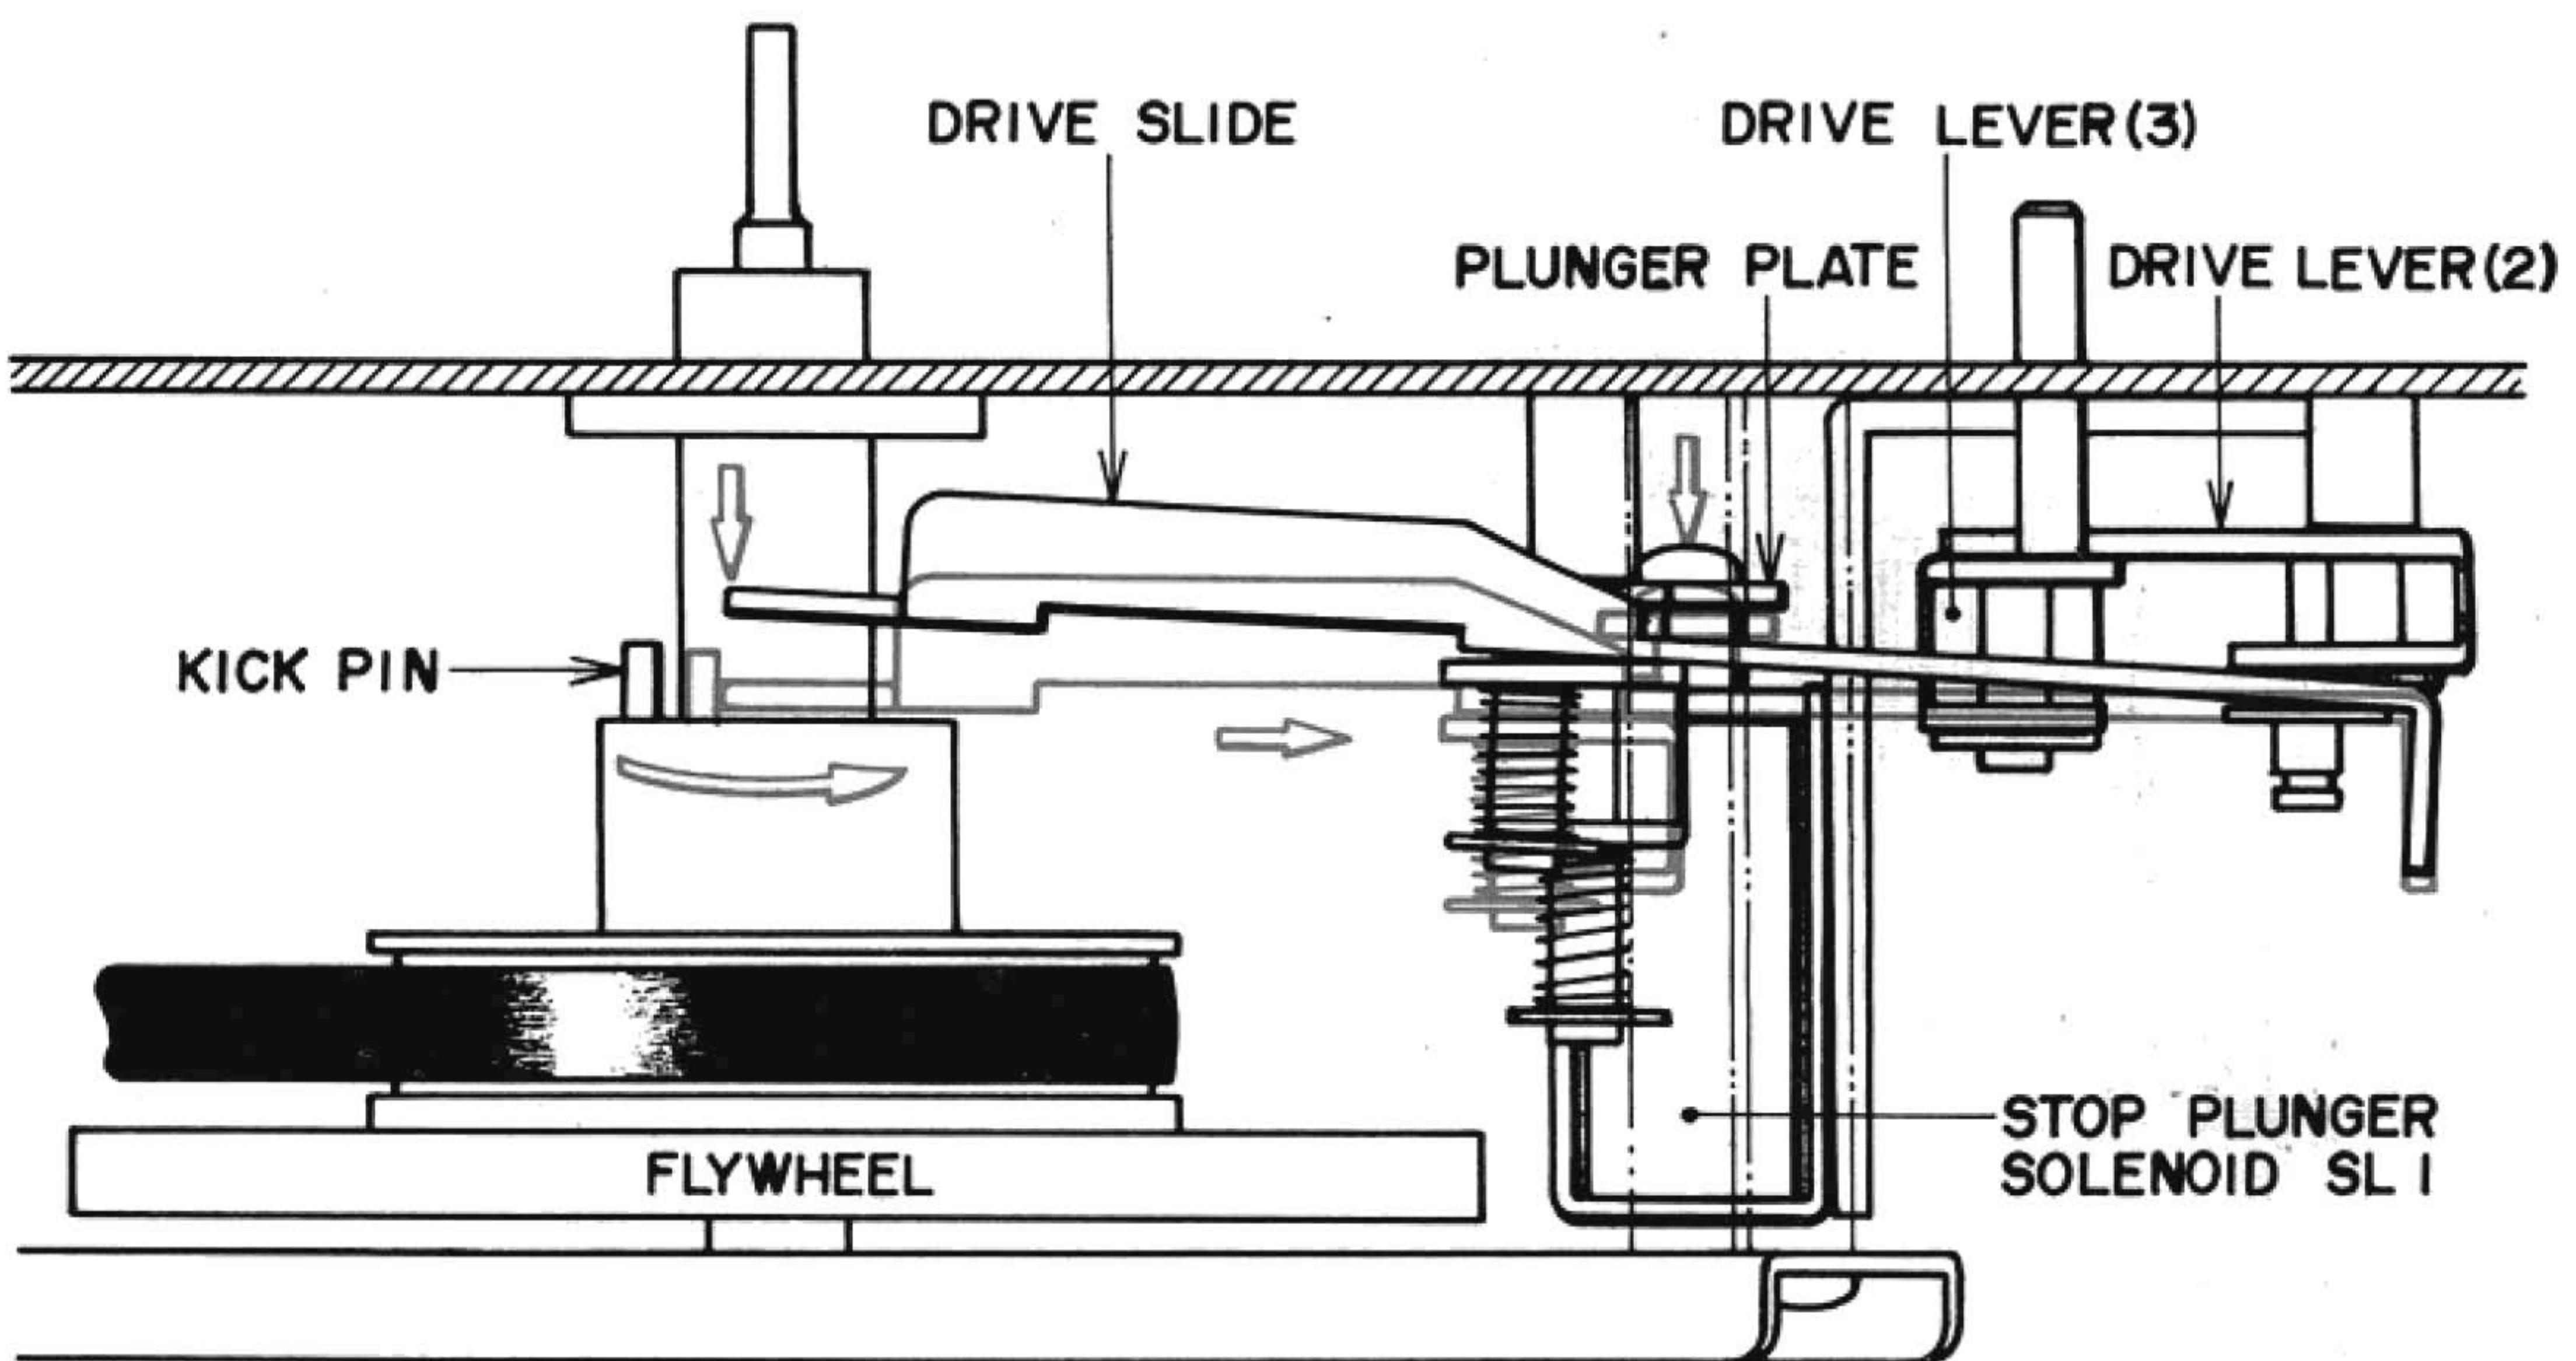
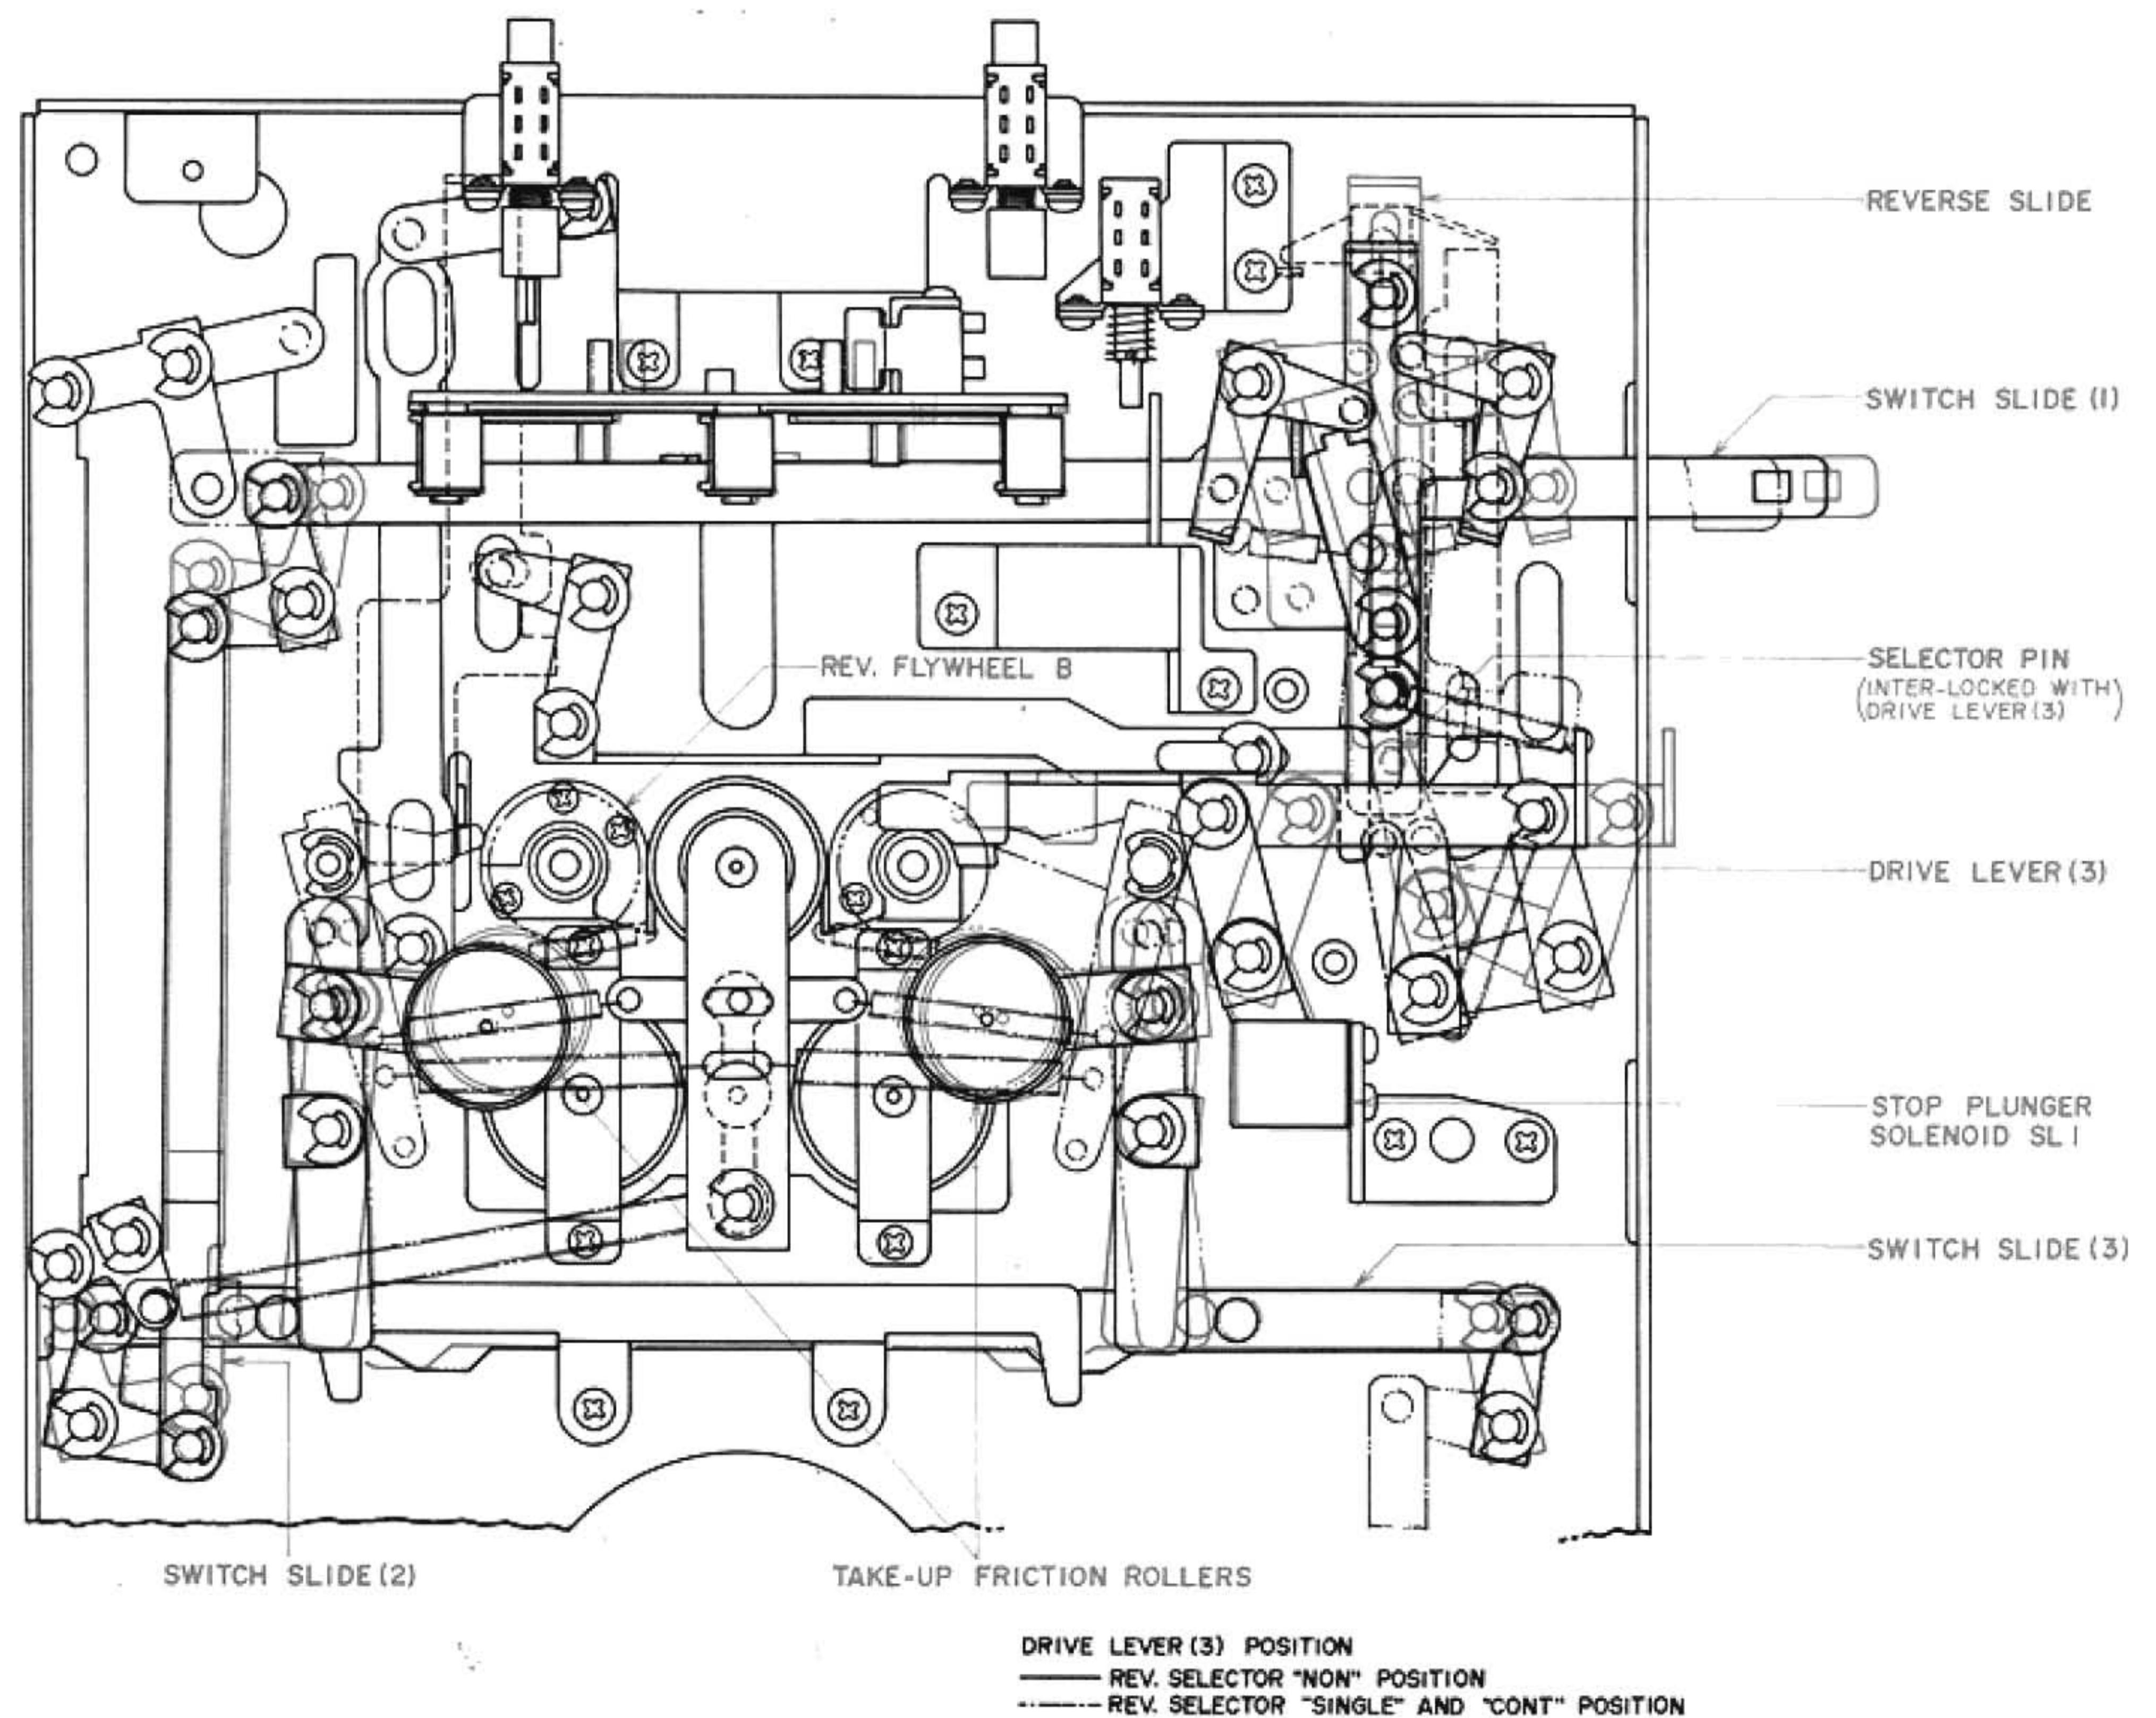

Fig. 29
Fig. 32 Reverse Selector : SINGLE → From FWD to REV Operation
(Refer to Figs. 29, 30)
- b) When Stop Plunger Solenoid SL1 operates, drive lever (1) which is interlocked with the stop plunger solenoid and the drive slide are momentarily pulled downward. (Refer to BASIC FUNCTION OF KICK MECHANISM, Fig. 29)
- c) When Stop Plunger Solenoid SL1 operates, drive lever (1) interlocked with the plunger plate and the drive slide, are momentarily pulled downward. (Refer to Fig. 29) At this time, the flywheel kick pin kicks the pulled down drive slide and drive slide moves in right direction.
(Refer to Fig. 32)
- a) When FWD recording or playback ends and the tape stops, because the REV Selector is set to SINGLE ↩ and drive lever (3) is right above the reverse slide as shown in Fig. 32, drive lever (3) selector pin depresses the reverse slide by means of the basic function of the kick mechanism (Refer to Fig. 29).
* For mechanism change from FWD to REV, refer to Item 3) and Fig. 32.